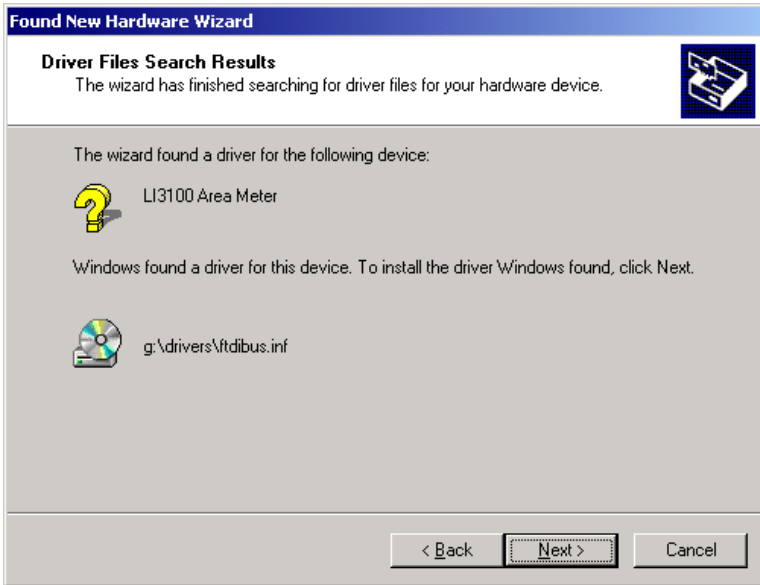

Figure 19. Driver search results.
5. Click **Next** (Figure 19).